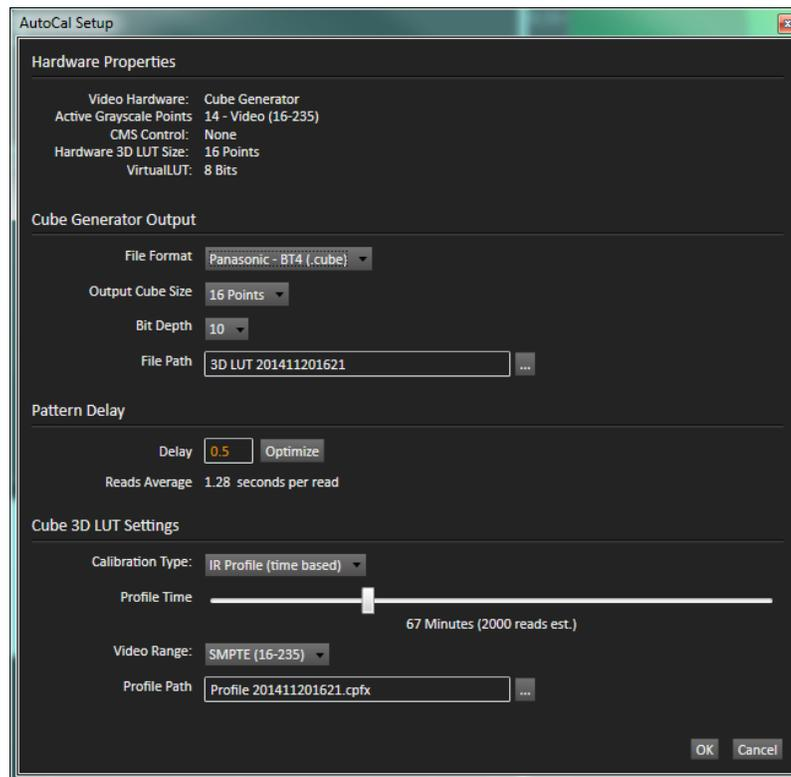

Figure 3. CalMAN AutoCal Setup dialog, for selecting options for 3D LUT creation.
1. On the 3D Cube LUT page, click the *AutoCal* (rotating arrows) button at the right end of the meter action buttons. The *AutoCal Setup* dialog then appears (Figure 3).